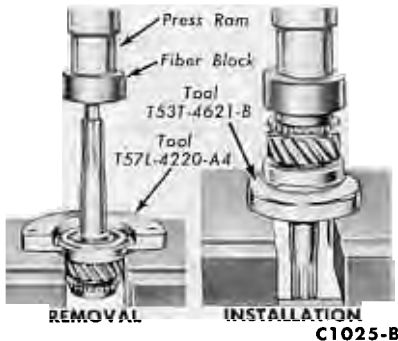

FIG. 16—Replacing Input Shaft Bearing
2. Press the input shaft bearing onto the input shaft with the tool shown in Fig. 16 and install the snap ring on the shaft.